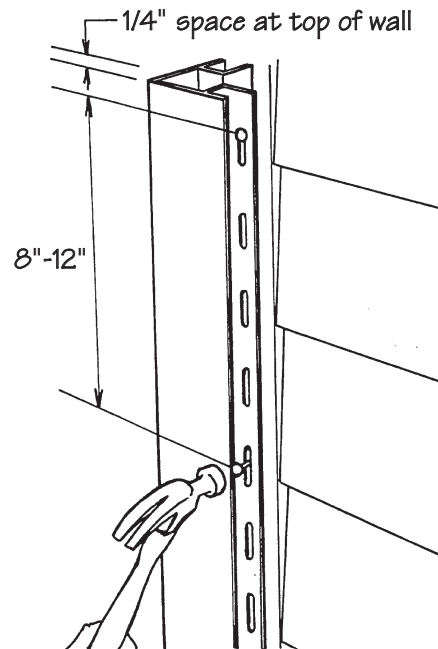

Figure 26.
- Place the corner post in position, allowing a 1/4" gap between the top of the post and the eave or soffit. Position a nail at the top of the upper slot on both sides of the corner post, leaving a 1/32" gap between the nail heads and the corner posts. The corner post hangs from these nails. The balance of the nailing should be in the center of the slot, 8" to 12" apart, again leaving 1/32" between the nail head and the corner post. This allows for the expansion and contraction to occur at the bottom. The corner post should extend 3/4" below the starter strip. Make sure the posts are plumb (i.e., vertically straight) (Fig. 26 and 27).